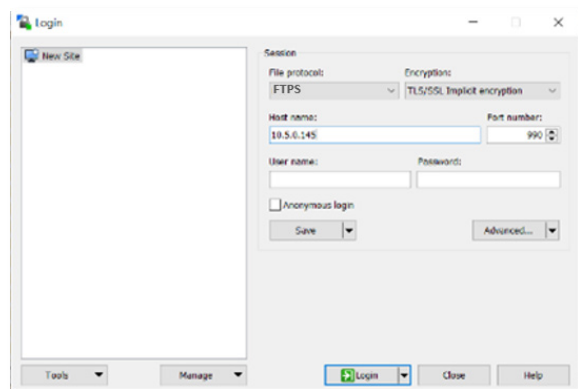

Figure 102: Enter the Digital Analyzer's IP address in the FTPS client connection.
1. On a Windows computer, launch the FTPS-supported client and start a new connection with the Digital Analyzer IP address or serial number as shown in **Figure 102**. Ensure the following settings are equivalent in the FTP client being used: Protocol = FTPS, Encryption = TLS/SSL implicit, Port = 990.